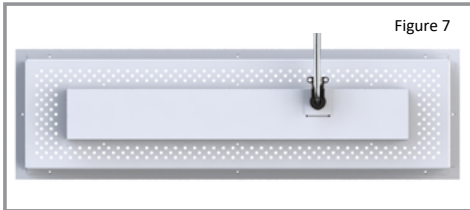

Figure 7
- Place flex-conduit bracket into open slot of the wiring box and secure using existing screw (*Figure 7*)